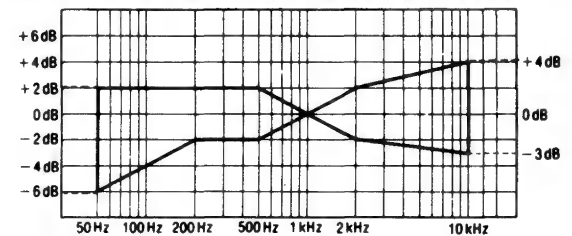

Fig. 8
2. Assure that the frequency response is within the range shown in Fig. 8 for both L-CH and R-CH.
4. Play back the test signals just recorded and verify that the levels at the test frequencies fall in the ranges specified in Fig. 8 with respect to the reference signal level.